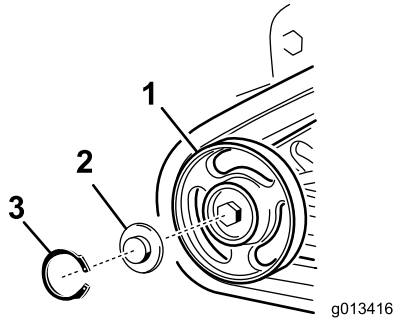

Figure 59
4. Remove the snap ring and cap from a road wheel (Figure 59).
5. Check the grease under the cap and around the gasket (Figure 59). If it is dirty, gritty, or depleted, clean out all of the grease, replace the gasket, and add new grease.
7. Place the greased road wheel cap over the bolt head (Figure 59).
8. Secure the road wheel cap with the snap ring (Figure 59).